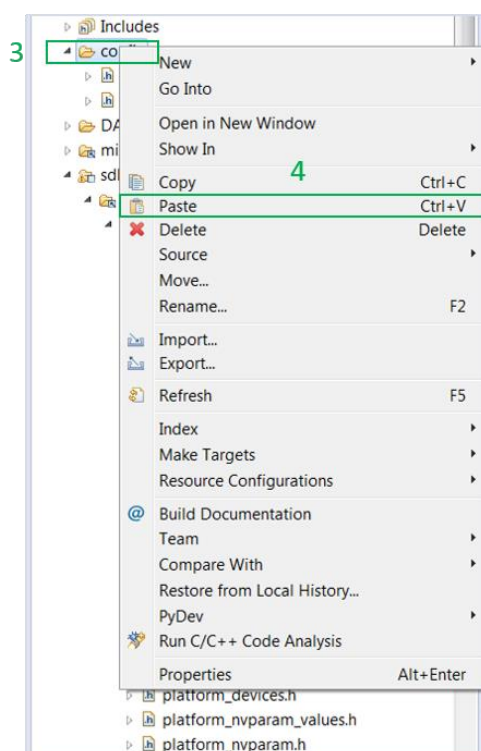

Figure 15: Creating platform\_devices.h Header File, Step 2
6. Connect the DAC module to the Pro DevKit. Figure 15 illustrates the pin connections required to configure the MCP4822 module. For more information on the DAC module used, read the manufacturer datasheet.